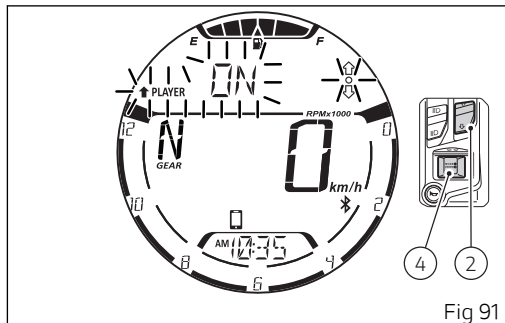

Fig 91
To exit the music player control and keep it active, for example with the track being played, press button (2) for 2 seconds. Afterwards, the display shows the black arrow facing upwards flashing for 3 seconds followed by the indication "PLAYER", the message "ON" and the empty circle "○" (Fig 91).